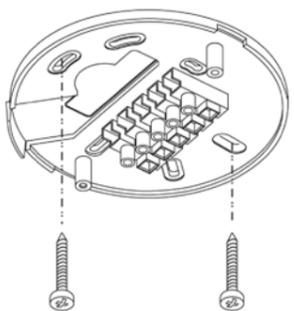

Fig. 8
7. There is a pattern of slots on the bottom case that should enable the fixing holes of the previous unit to be used. Fasten bottom case onto the ceiling with wood screws (see Fig. 8).